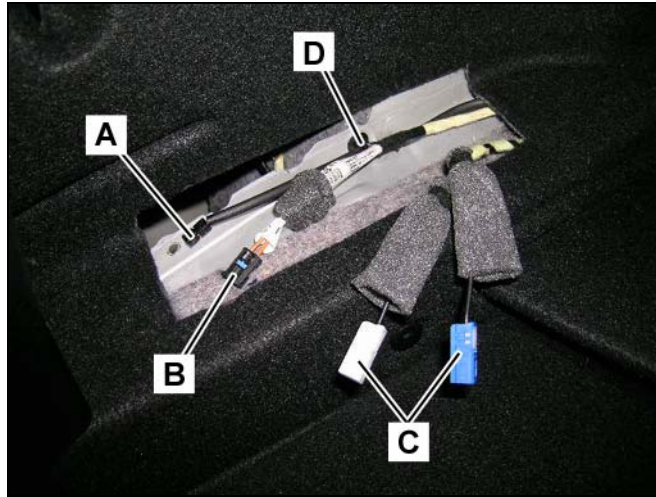

Figure 13
- SDARS power supply connector (A, Figure 13)
- SDARS MOST optical fiber connector (B, Figure 13)
- SDARS antenna connectors (C, Figure 13)
3. Carefully cut the wire tie anchoring the preinstalled wiring harness and remove the wire tie anchor (D, Figure 13).
4. Pull back the foam sleeves to expose the connectors (A, B and C, Figure 13)